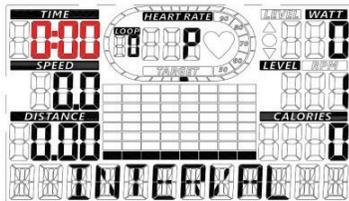

Fig. 24
- To set time, press UP (▲)/DOWN (▼) buttons (Fig. 24). When finish, press “SET” button to confirm and then press “START” to begin the workout.